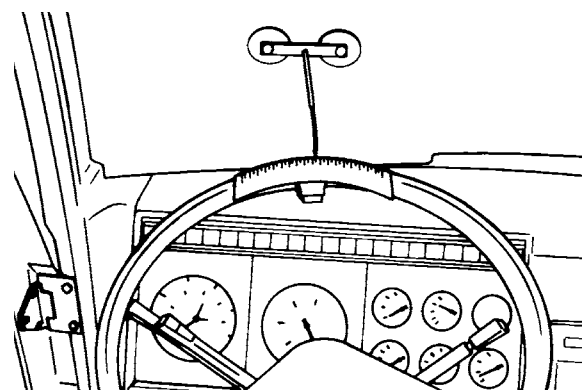

Fig. 30
- Put tool [2] on the steering wheel and attach the pointer to the dashboard or to the wind-screen (**Fig. 30**).